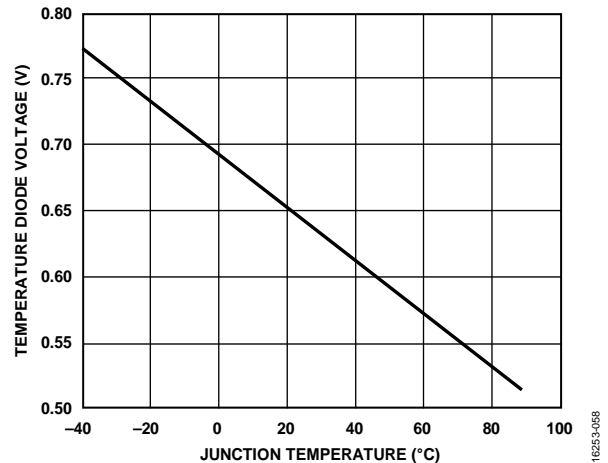

Figure 62. Typical Voltage Response of the 1× Temperature Diode
3. Set Register 0x18E6 to 0x01 to turn on voltage export of the central 1× temperature diode. The typical voltage response of the temperature diode is shown in Figure 62. Although this voltage represents the die temperature, it is recommended to take measurements from a pair of diodes for improved accuracy. The following step explains how to enable the 20× diode.